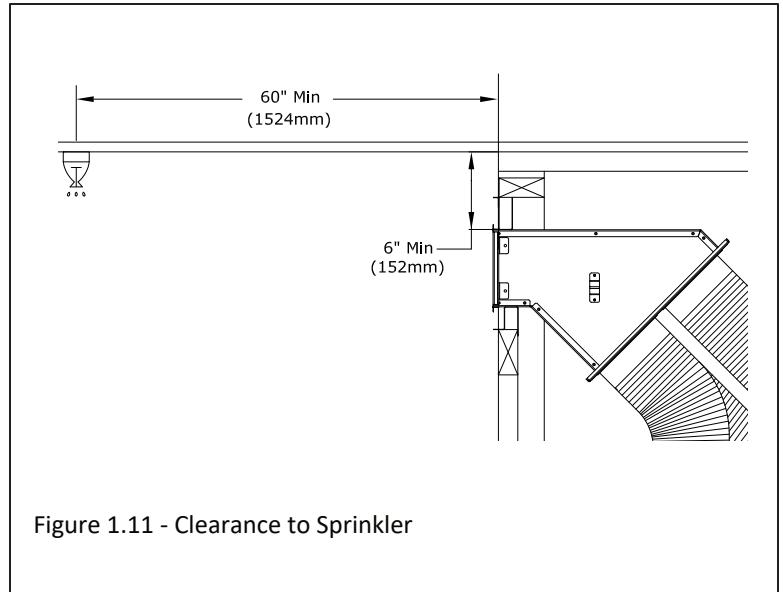

Figure 1.11 - Clearance to Sprinkler
- Figure 1.11 shows a side KZK whereas your installation may look different.